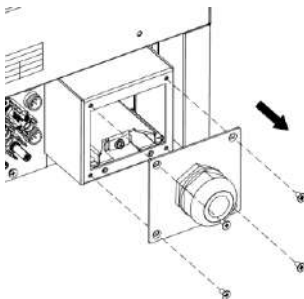

Figure 4.17 Unpacking the waterproof cover
- (1) Lighting, short-circuit and other protection measures which meet the local electrical safety laws and regulations are needed before the AC connection.
- (2) Disassemble the waterproof cover of the three-phase inverter AC junction box, as shown in Figure 4.17.